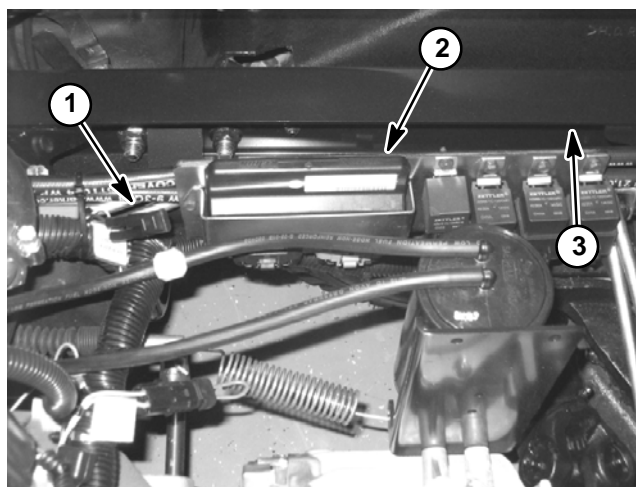

Figure 5
2. Locate termination cap that connects the two (2) service shunt wires located near engine controller (Fig. 5).
3. Remove termination cap from service shunt wires and connect the two (2) shunt leads together.
4. Monitor the check engine light on the dash panel to determine the two (2) digit component failure code that will be displayed by the flashing check engine light.